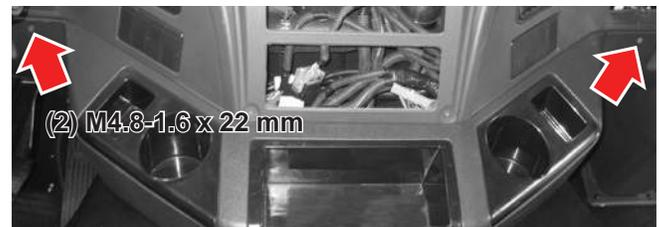

Figure 5-1
1. Remove the cup holders on either side of the lower instrument panel skirt and discard (see *Figure 5-1*).